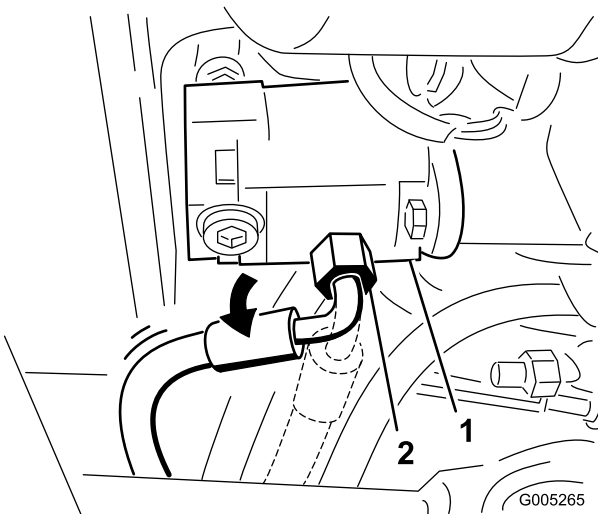

Figure 85
30. Loosen the pressure hose fitting at the pump and rotate the fitting 45 degrees toward the rear of the machine (Figure 85).
Note: Figure 85 is shown as viewed from under the traction unit.